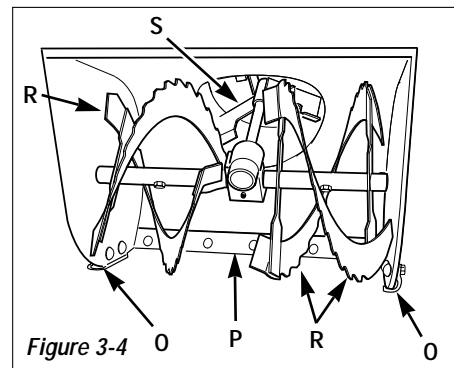

Figure 3-4
This lever controls the engagement of the auger drive. When the lever is down against the handlebar and the engine is running, the auger (R, Figure 3-4) and impeller (S) will rotate. See Section 5 of this manual for adjustment information.
Skid Shoes (O, Fig. 3-4)
Scraper Blade (P, Fig. 3-4)